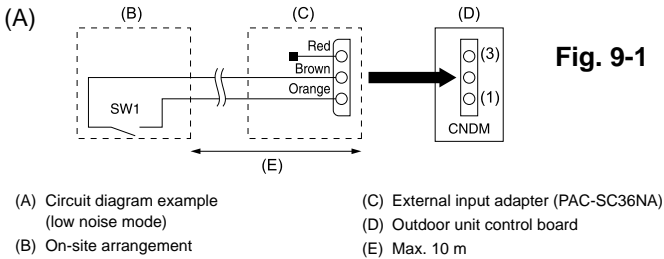

Fig. 9-1
- 9.1. Low noise mode (on-site modification) (Fig. 9-1)**